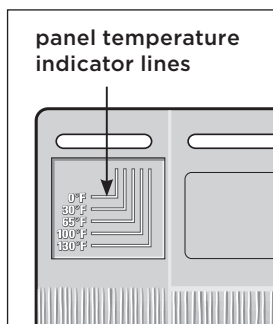

Figure 1
Each panel has a PanelThermometer™ that displays panel temperature and indicator lines that serve as guides for proper spacing between the panels. The PanelThermometer is located on the upper right-hand corner of the panel; the indicator lines are on the upper left-hand corner (Figure 1). Note that the panel temperature may change throughout the day. Space the panels according to the panel temperature at the time of installation. The cells on the PanelThermometer will change color to indicate the temperature of the panel.
4. Install the next panel by positioning it below the starter strip and next to the first panel. Push in and up to lock the panel into the starter strip, as shown in figure 5. Space the second panel according to the panel temperature at the corresponding temperature indicator lines (*Figure 1*). Gently tap the outside of the HammerAssist™ Pads to properly position the panel left or right.